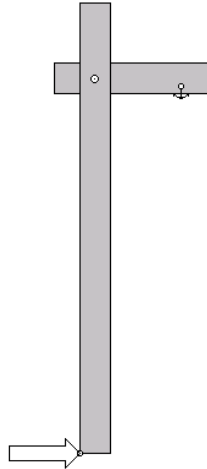

Figure 7
9. Now, you should have a model similar to Figure 7.